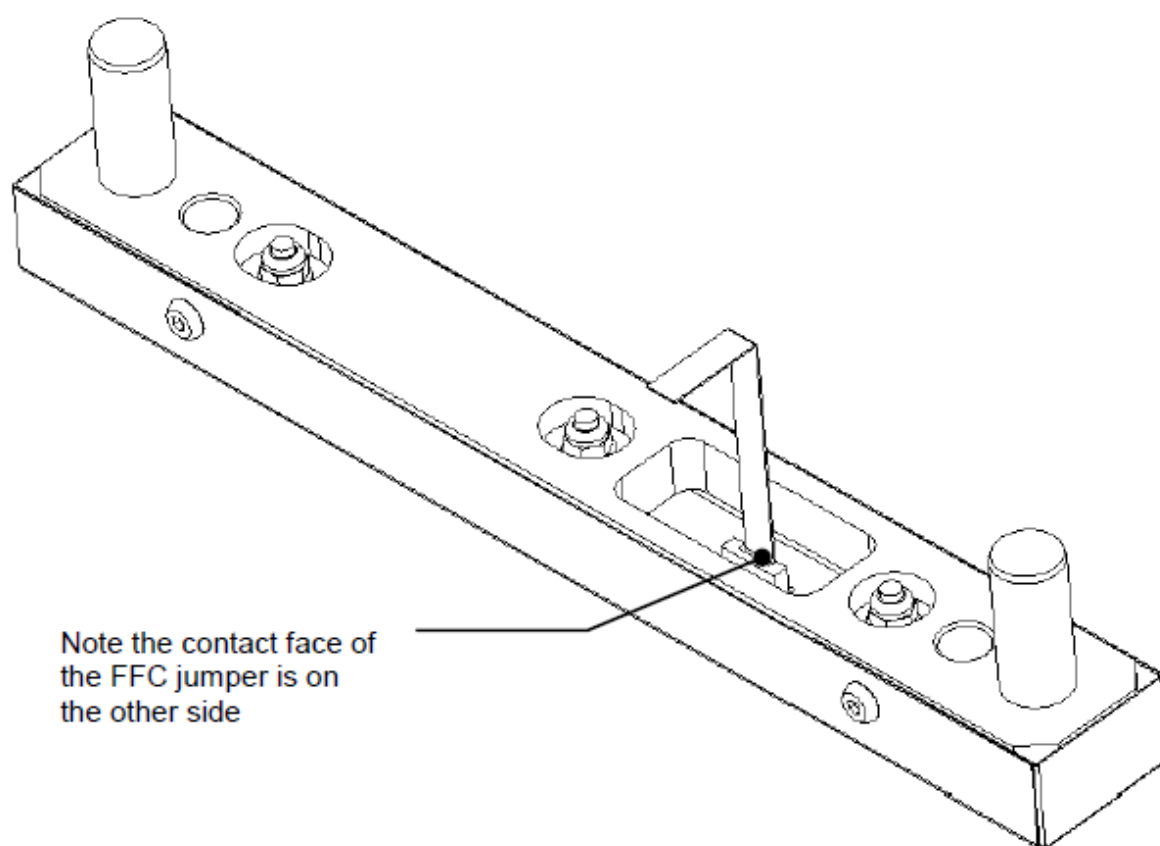

Figure L-8: Positioning of FFC Jumper
1. The FFC jumper should be placed on the PCB as shown in Figure L-8. The contact face of the FFC jumper should match the contact face of the connector.